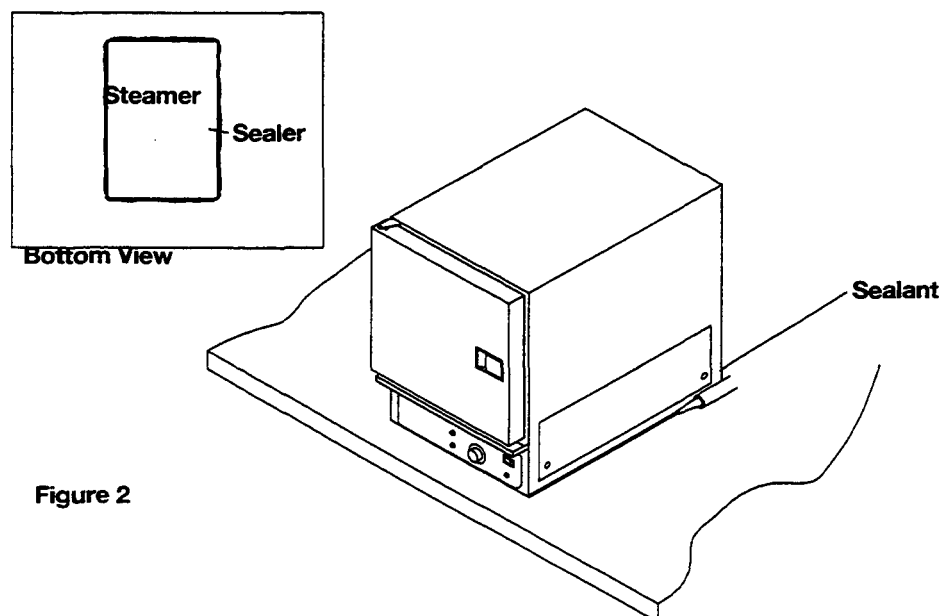

Figure 2
Be sure that input voltage matches requirement on serial plate. Unit is factory wired for 3-phase, to change to single-phase. Remove right side panel and re-arrange element lead wires 2 and 3 as shown on sticker inside panel. (Refer to Figure 2.)
4. If unit is to be installed on a counter top or other surface without using legs the unit must be sealed to the surface so as to prevent any water, grease, etc. from accumulating under the steamer. The steamer can be bolted to the counter but will still have to be sealed. The installer may use G.E. or DOW Corning RTV type sealant. (Consult local code for exact requirements.) (See Figure 2.)